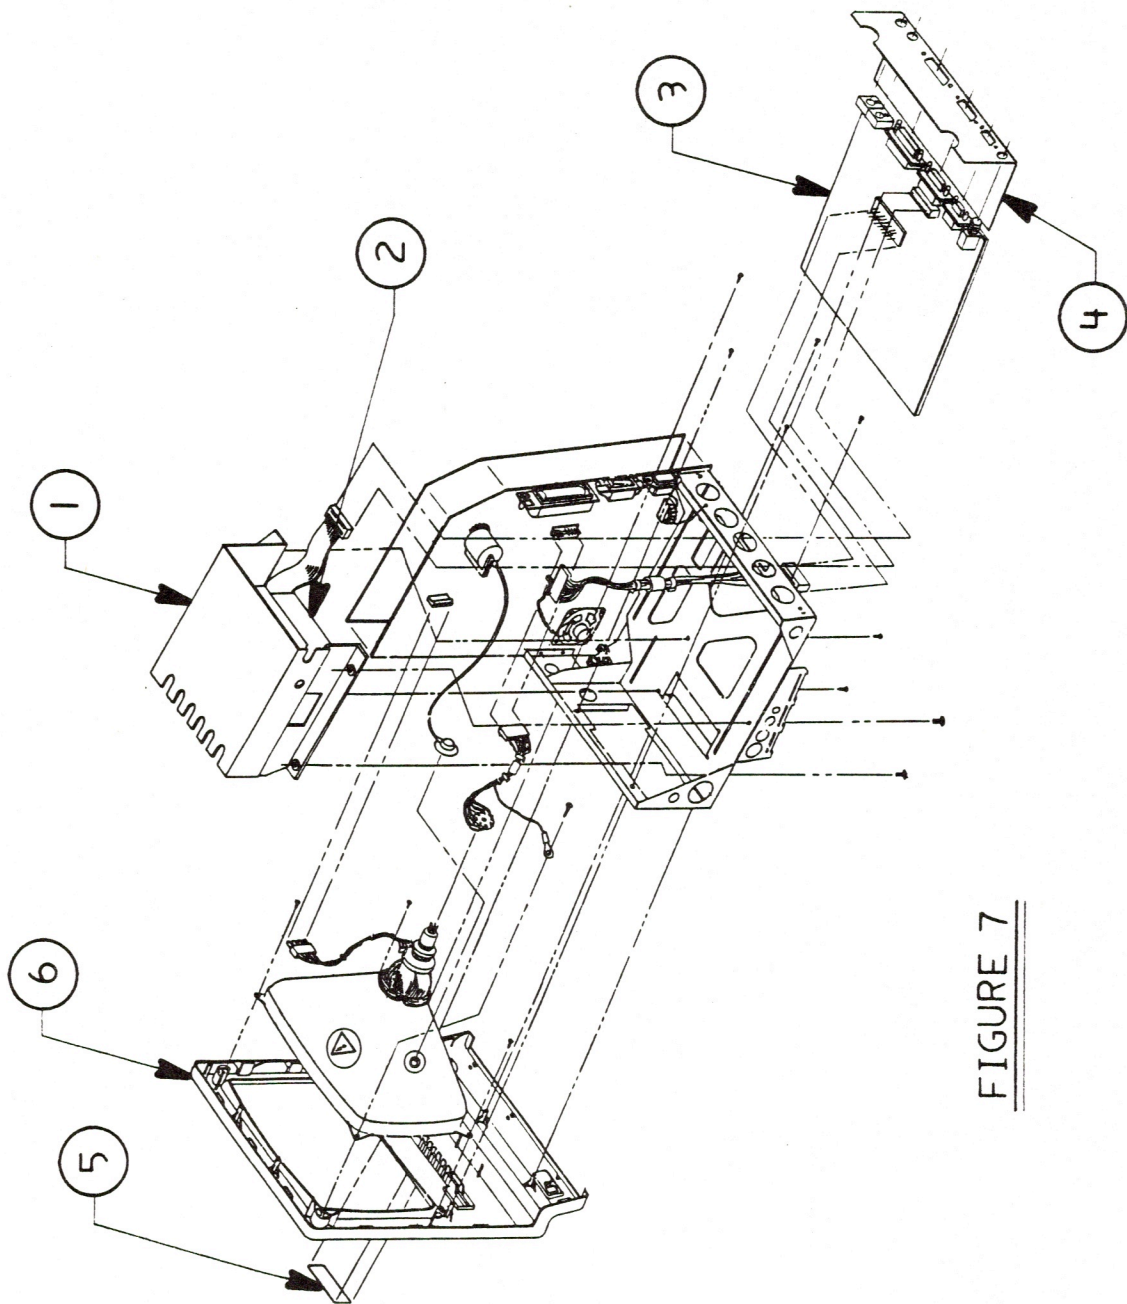

FIGURE 7
□ MACINTOSH PLUS – EXPLODED ASSEMBLY (Figure 7)